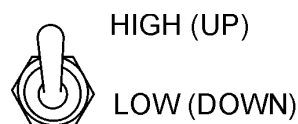

Figure 59. Engine Speed Switch(HIGH)
5. Turn the switch on the engine speed to "HIGH" (Figure 59).